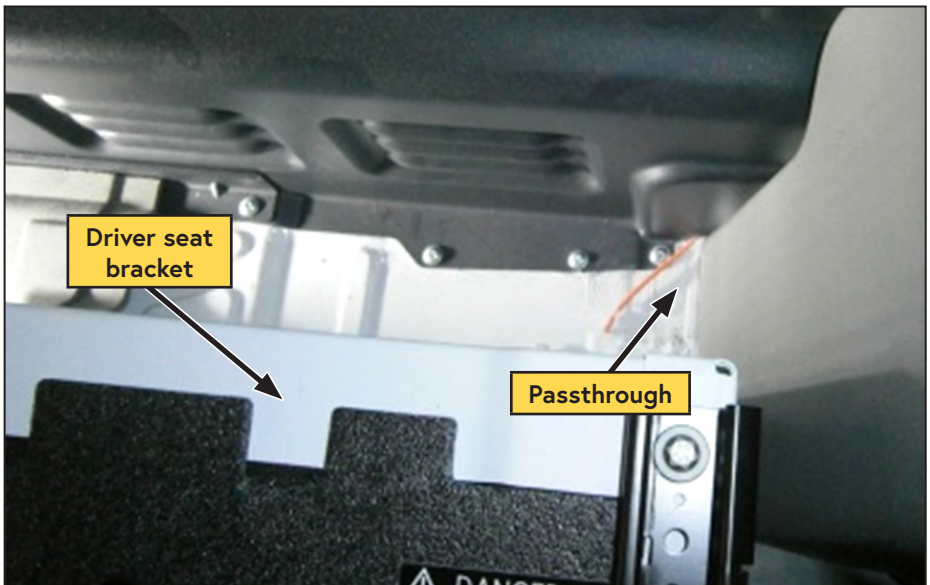

Figure 48 — Bulkhead passthrough
- Route the bundled harnesses through the pass-through in the bulkhead to the cargo bay (Figure 48).